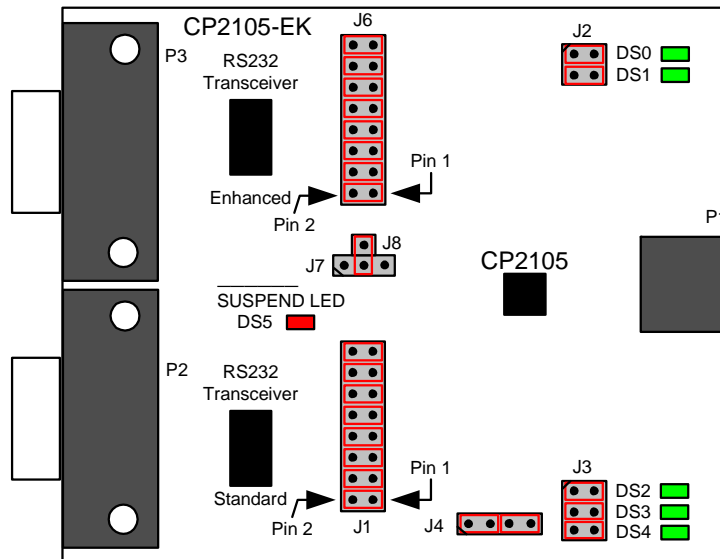

Figure 3. CP2105 Evaluation Board with Default Shorting Blocks Installed
The CP2105 Evaluation Kit includes an evaluation board with a CP2105 device preinstalled for evaluation and preliminary software development. Numerous input/output (I/O) connections are provided to facilitate prototyping using the evaluation board. Refer to Figure 3 for the locations of the various I/O connectors.
- Updated Figure 3 with shorting blocks installed.